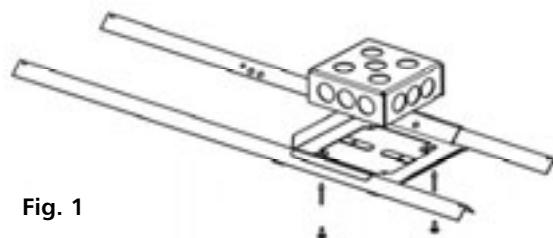

Fig. 1
- Fig. 1, UNSCREW half-way the two screws from the baseplate; lift and slide the electrical box from base.